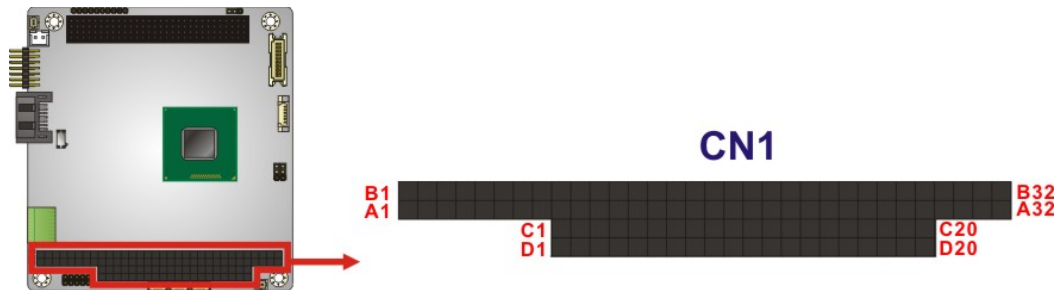

Figure 3-12: PC/104 Slot Location
- CN Location:** See **Figure 3-12**